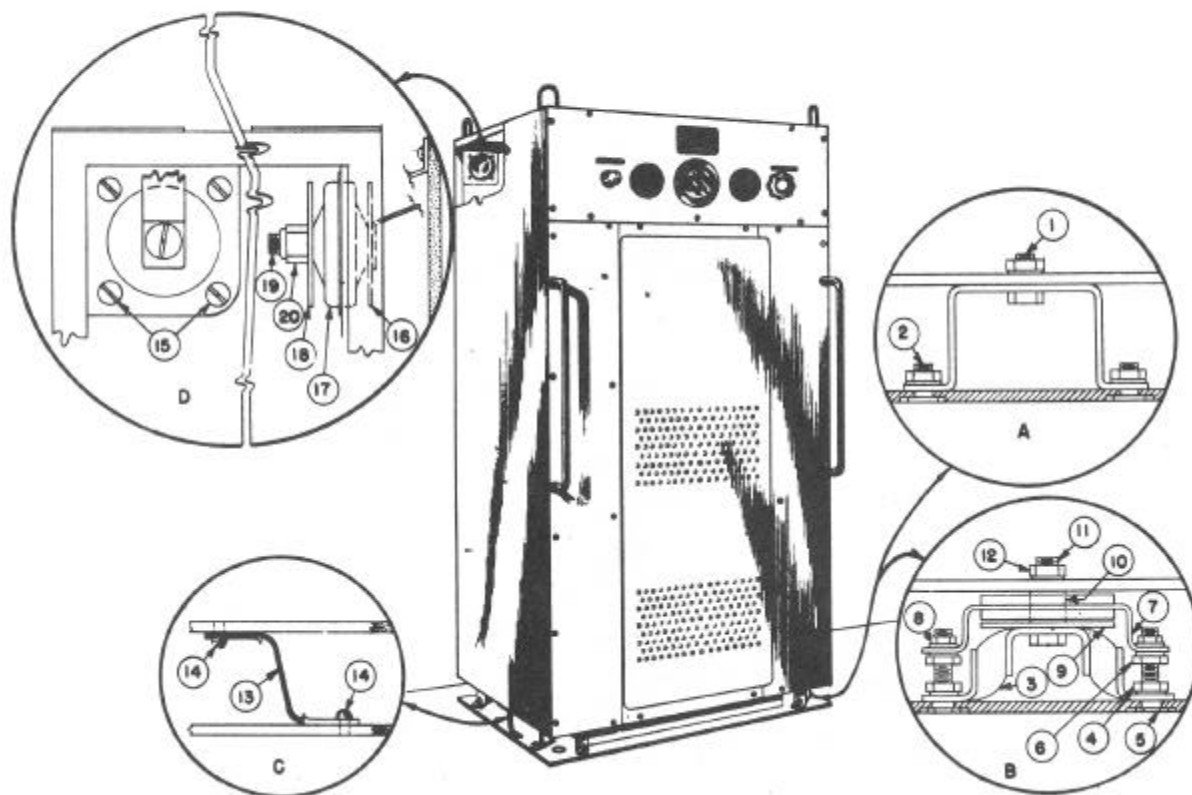

Figure 3-3 Rectifier Unit, showing Mounting Details
(2) Remove the rigid mounts shown in (A) of Fig. 3-3 by removing the center bolts ① holding the base assembly to the frame of the unit. There are four base mounts on both the transmitter and rectifier which must be removed. This allows the entire base assembly to fall away from the unit where it may be more easily handled.
(3) Remove the rigid mounts from the base plate by removing the two bolts ② holding each to the plate. These parts should be stored in the spare parts box for future use where rigid mounting may be desired.
(4) Attach the shock mount shown in (B) of Fig. 3-3 as follows:
(4) Attach the grounding strap connectors ⑬ to the unit frame and mounting plate on both sides of the unit by means of the #10-24 x 5/16" screws ⑭ and lockwashers supplied, as shown in (C) of Fig. 3-3. In most units tapped holes are provided for the grounding strap screws, otherwise attach grounding strap connector to the frame by removing the nut from one of the screws that pass through the frame, add the connector lug, replace nut, and tighten securely.
(6) Lower the unit to the floor and with the full weight of unit supported, on the shock mounts adjust the location of the snubber at each shock mount. This is accomplished by screwing the two lower nuts ⑧ up or down until the clearance between the rubber portion of the snubber and plate ⑩ and frame of unit are approximately equal. Make sure that the snubber plate is approximately parallel to the mounting plate. Hold lower nuts in position and tighten upper nuts ⑤ securely.
(7) Install two upper shock mounts at the top rear of the transmitter and rectifier units as shown in (D) of Fig. 3-3, with the hardware provided for this purpose ⑬, ⑭, ⑮, ⑯, ⑰, ⑱.
When the unit is installed on board ship, all of the provided shock mountings must be utilized. This may require that the transmitter unit be installed with its back against the bulkhead to secure the upper rear shock mounts. By providing brackets, however, as suggested in (D) of Fig. 3-3, the transmitter may be mounted away from the bulkhead to allow clearance behind it. The grounding strap shown in (C) of Fig. 3-3 must be provided between the mounting plate and transmitter frame.